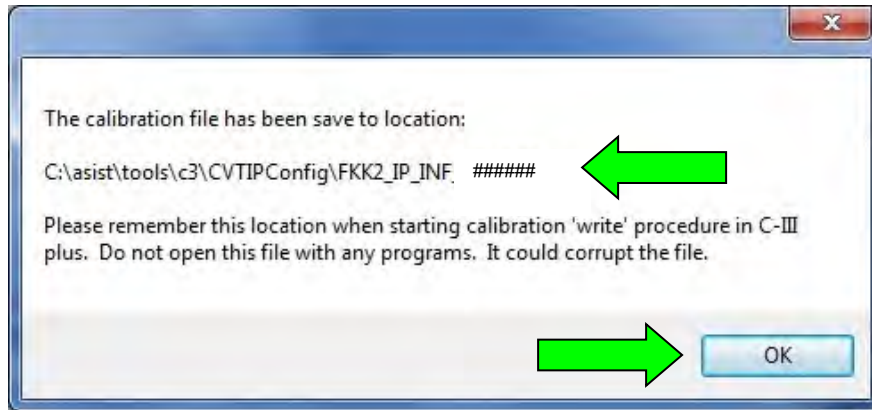

Figure 3
- If the pop-up shown in Figure 3 populates,